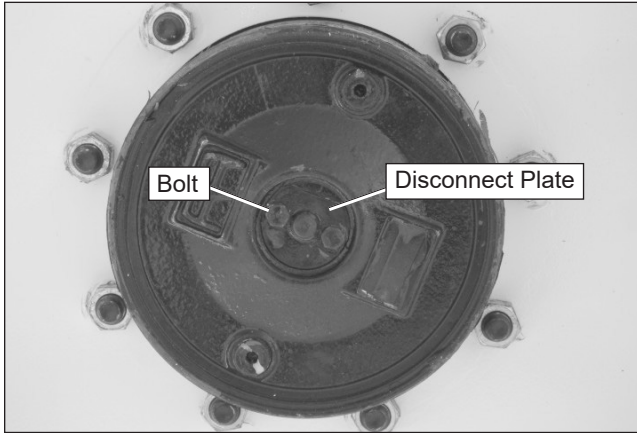

Figure 10.7 – Drive Wheel
10. At each drive wheel, remove the two bolts from the disconnect plate (refer to Figure 10.7). Turn the plate over so the nipple points inward. Reinstall the two bolts.